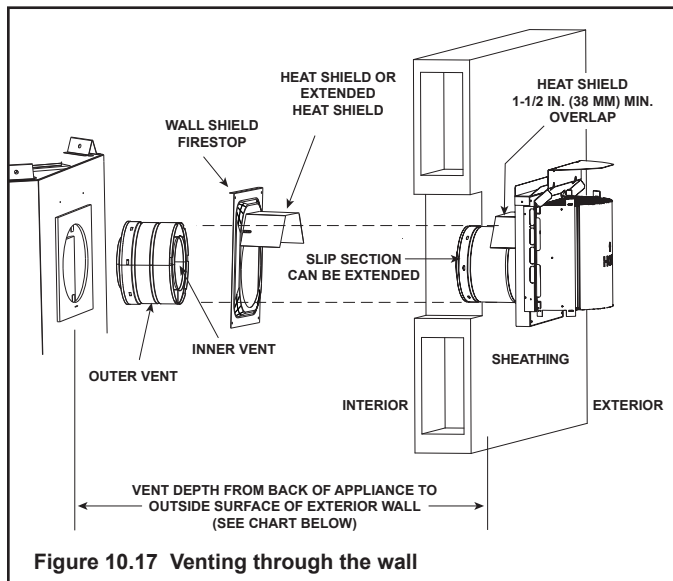

Figure 10.17 Venting through the wall
- **DO NOT** remove the heat shields attached to the wall shield firestop and the horizontal termination cap (shown in Figure 10.17).
There are two sections of the heat shield. One section is factory-attached to the wall shield firestop. The other section is factory-attached to the cap. See Figure 10.17.